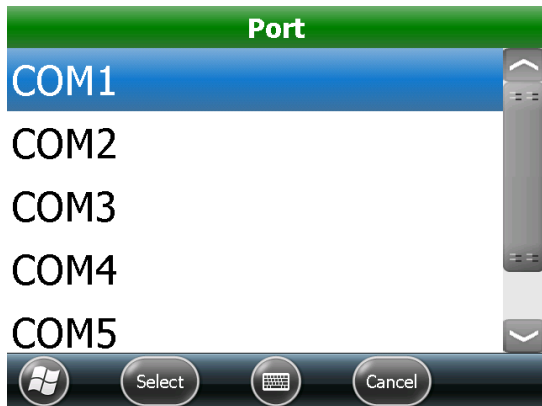

Figure 46: Select COM1
3. Tap **Port**. Then tap the COM port for the device. In this example, **COM 1** is selected for the Repeater (Figure 46).